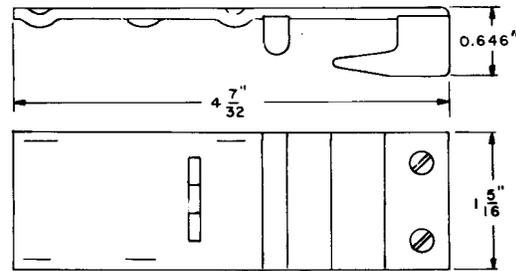

Fig. 14—575A Feeder Brush Aligner Tool
2.14 **575A:** The 575A tool (Fig. 14) is a feeder brush aligner used in replacing feeder brushes in the 10-, 11-, 26-, and 27-type banks.